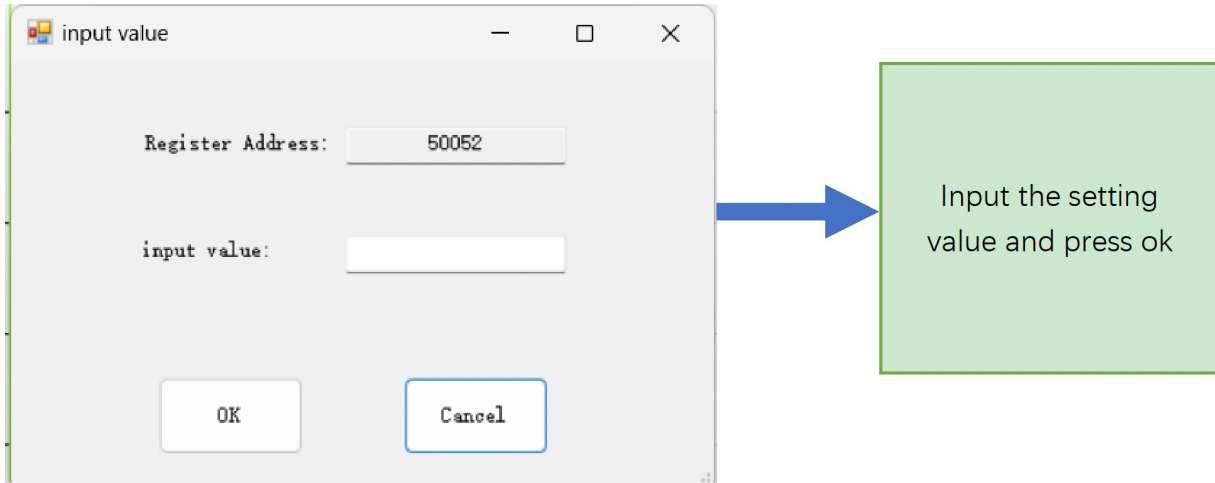

Figure 4
- Input the setting value as shown in Figure 4